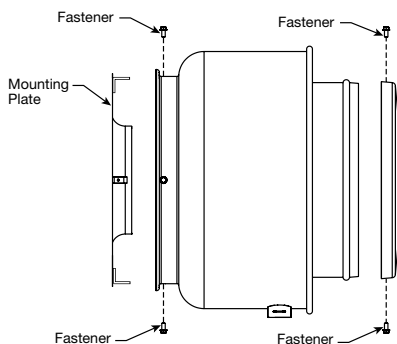

Figure 5
1. Remove mounting plate from unit by removing the fasteners shown in Figure 5.
2. Remove motor compartment cover by removing fasteners shown in Figure 5. Place cover on a flat surface in an area protected from strong winds.